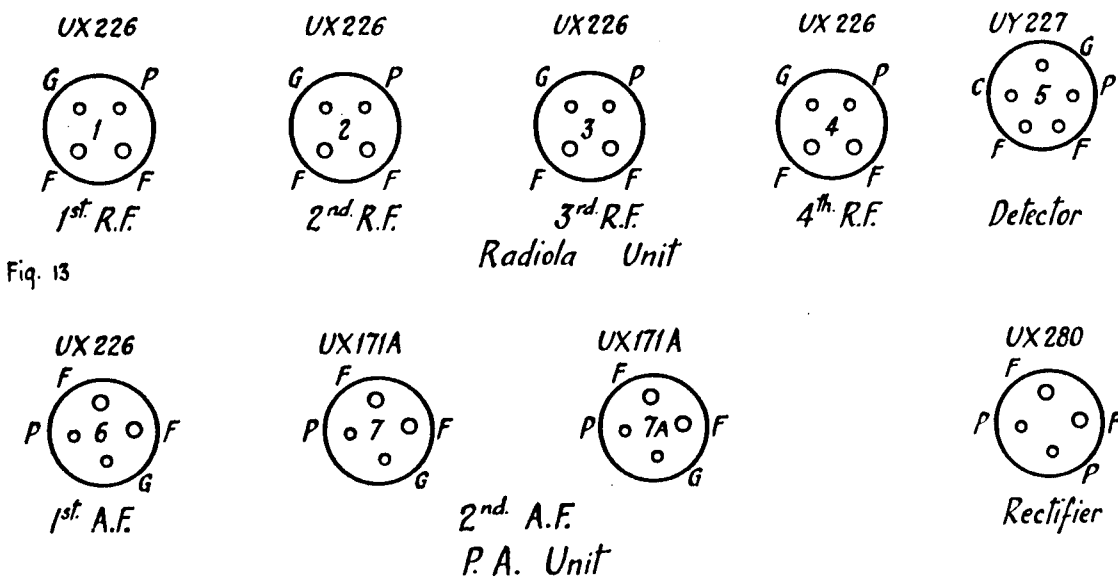

Fig. 13—Valve Sequence and Position of Valve Contacts in A.W.A. Duoforte.
2. **PRELIMINARY VOLTAGE TEST.** Before removing the chassis from the cabinet make the following voltage tests across the valve sockets with all the valves in position and with the loudspeaker connected. No reading points to a fault in the Radiola and the chassis should then be removed for Continuity Tests. Fig. 13 shows the relative positions of the valve contacts in the Duoforte. The valves in the Radiola chassis are shown in their correct sequence looking down on to the chassis from the front of the Duoforte, and the valves in the power amplifier unit are shown in their correct sequence looking down on to the unit from the back of the Duoforte.